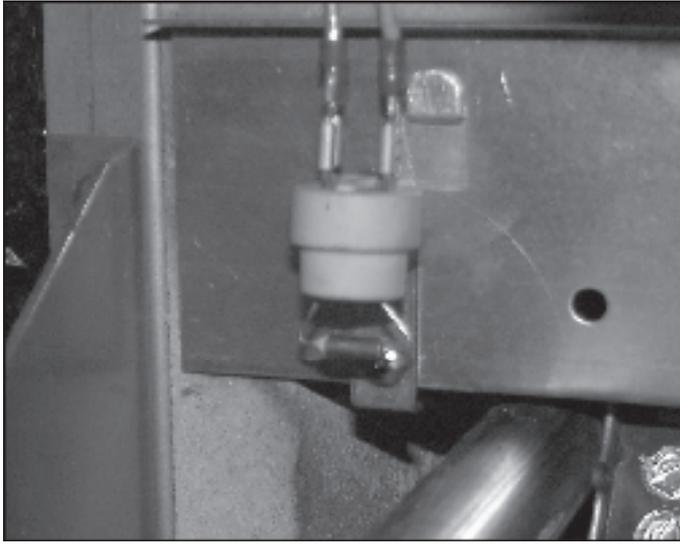

Figure 1: Flame Rollout Switch
- 3) All boilers except the CWD and BWC boilers are equipped with a flame rollout switch (Figure 1). This switch will shut the burners down in the event that flames exit the burner compartment through the front opening. The CWD and BWC use an electronic means built into the ignition system to extinguish the burner/s in the event that flames exit the combustion chamber. If the boiler fails to fire, call a qualified heating service agency to diagnose and correct the problem.